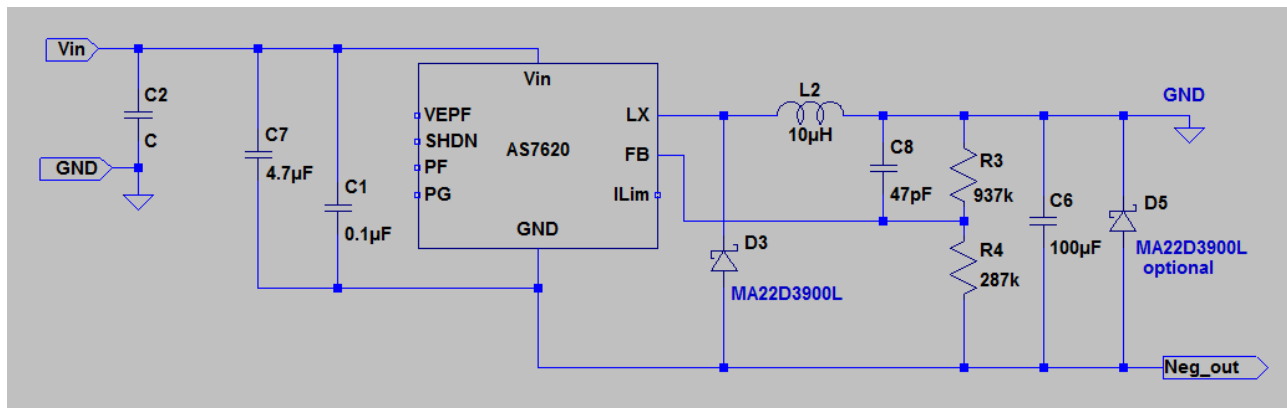

Fig. 1: AS7620 connected as a negative buck/boost regulator
Figure 1 shows a -5V negative buck/boost inverter circuit, using the AS7620 positive buck regulator from austriamicrosystems. This IC is specified for a 3.6V to 32V input voltage range, uses a 1.2V feedback voltage and has an internal 500mA power switch. The switch current is monitored so that the converter always operates in discontinuous current mode (DCM): this means that it is intrinsically stable, and no external compensation circuitry is needed. It also means that it does not have an issue with stability due to the RHP zero, because this only occurs in flyback, boost and Čuk circuits, and then only in continuous current mode.
During the first stage of the switching period, when the switch is on, the inductor is linearly ramped up to store energy (see Figure 1 again). No current passes to the output. In the second stage, when the internal switch in the IC turns off, the inductor will reverse polarity, inducing the freewheeling diode D3 to forward-bias and transfer energy to the load and the
- 1) The voltage across the AS7620 is made up not only of V_{in} , but is equal to the input voltage plus the magnitude of the negative output voltage ($V_{in} + |V_{out}|$). Therefore care should be taken to specify an appropriate voltage rating for the input caps (C7 and C1 in Figure 1). In addition, ($V_{in} + |V_{out}|$) must not exceed the maximum voltage rating of the regulator. The AS7620, for instance, has a maximum voltage rating of 40V. It is feasible to use this part to generate a -12V output from a +12V rail, or a -5V output from a +24 V rail.